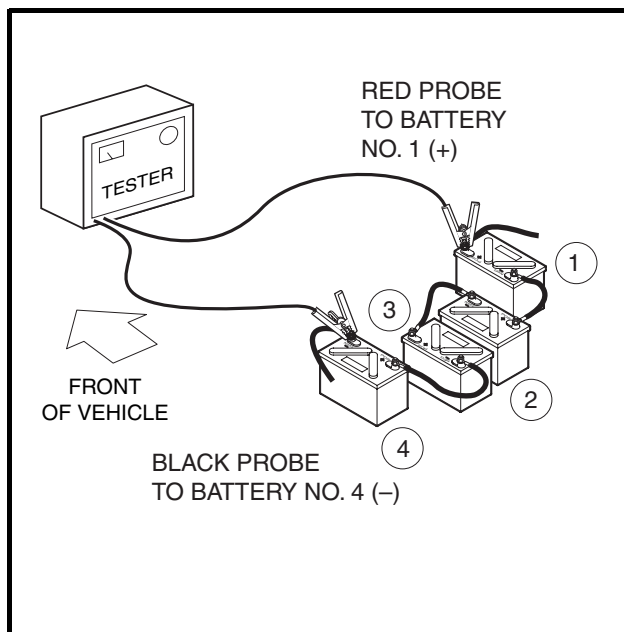

Figure 20-5 Battery Discharge Test
2. Connect the tester leads to the positive (+) post of battery no.1 and negative (-) post of battery no. 4 (Figure 20-5, Page 20-9).